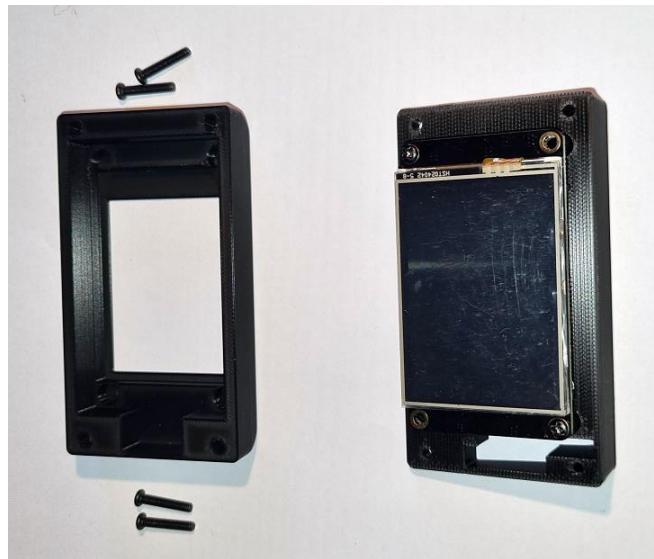

Fig. 5.3
- Remove the 4 screws and open the display case (fig. 5.3)